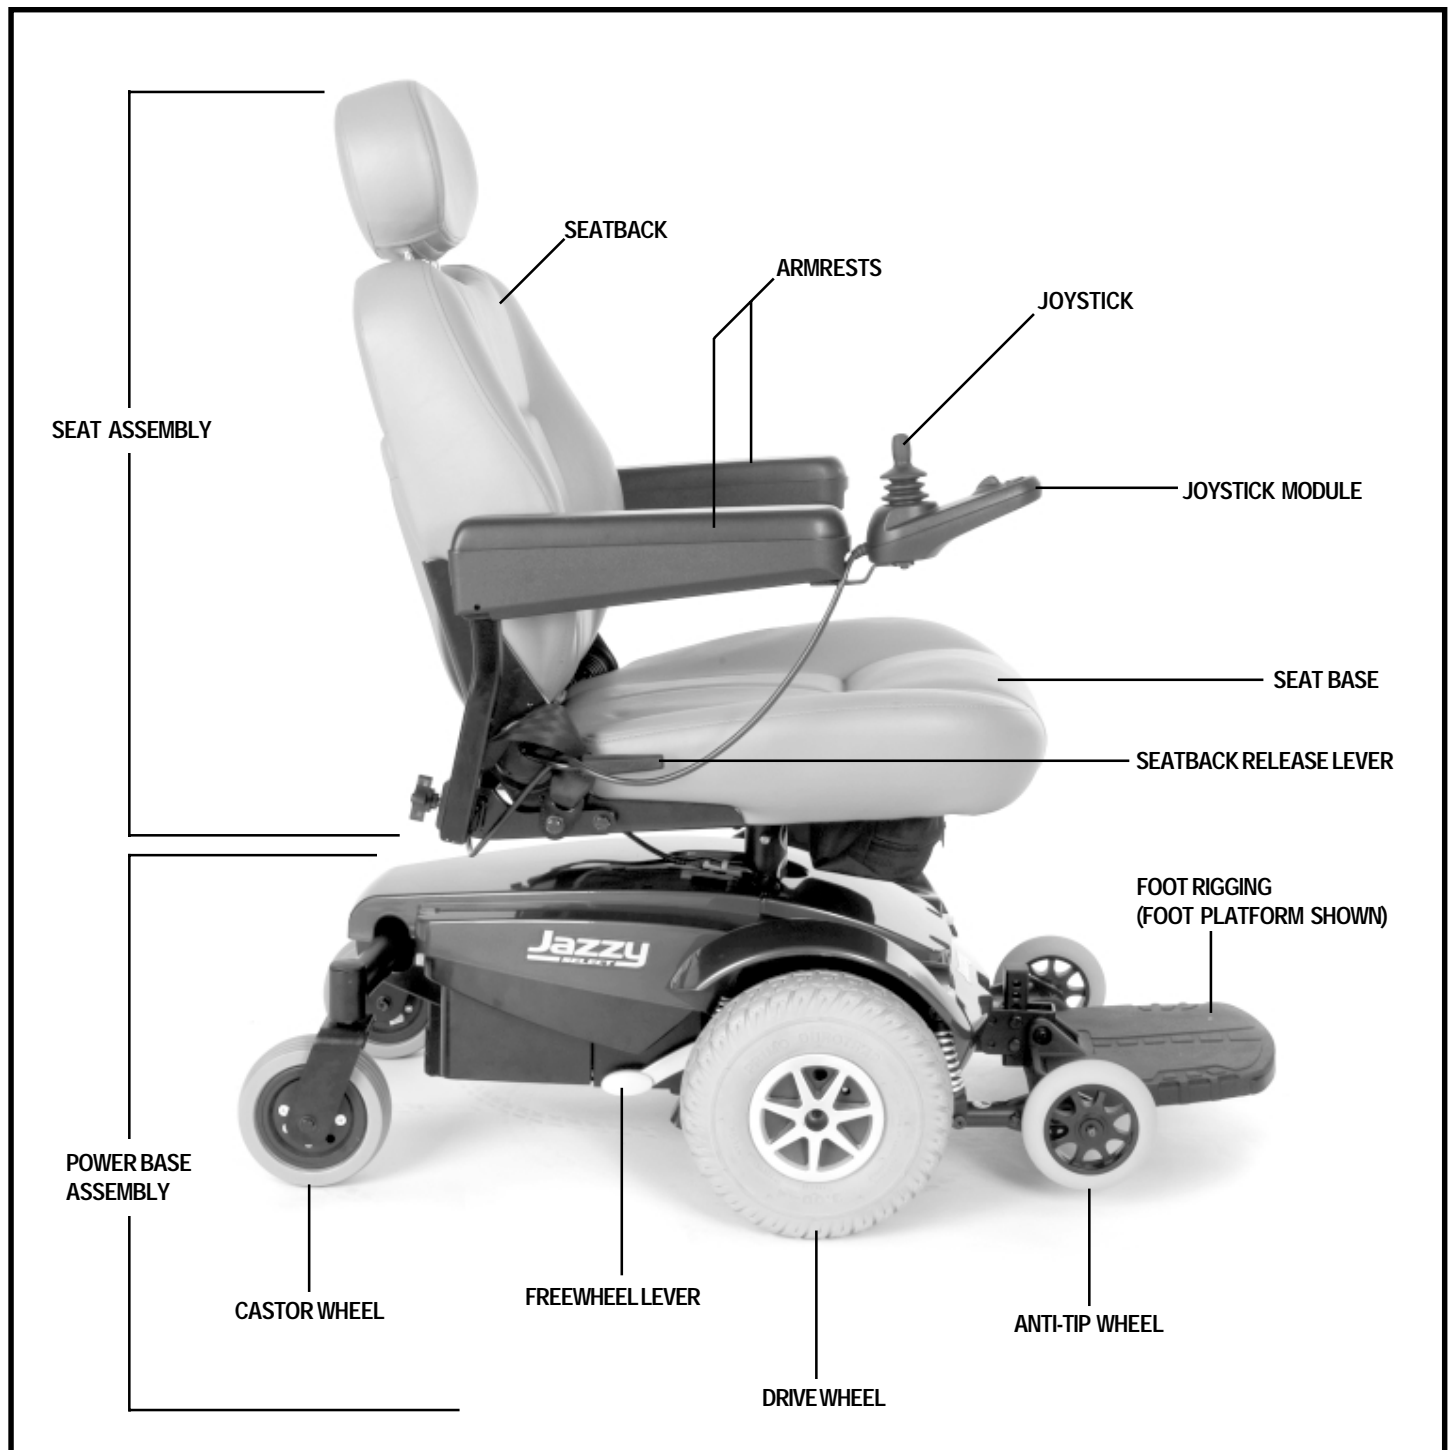

Figure 5. The Jazzy Select
The Jazzy Select has two main assemblies: the seat assembly and the power base assembly. See figure 5. Typically, the seat assembly includes the armrests, seatback and seat base. The power base assembly includes two motor/brake assemblies, two drive wheels, two castor wheels, two anti-tip wheels, two batteries and wiring harnesses. See figures 5, 6 and 7.
1. Locate the lever on each side of the power base. See figure 5.